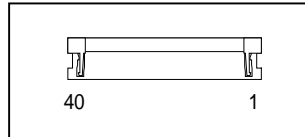

Figure 2.7.2 Connector appearance figure for LCD interfaces
The connectors currently used are 40 FLH-SM1-TB (LF), and (SN) (made from the J.S.T. Mfg Co.,Ltd) The appearance figure of the connector for LCD interfaces is shown in Fig. 2.7.2, and signal arrangement is shown in Table 2.7.2.